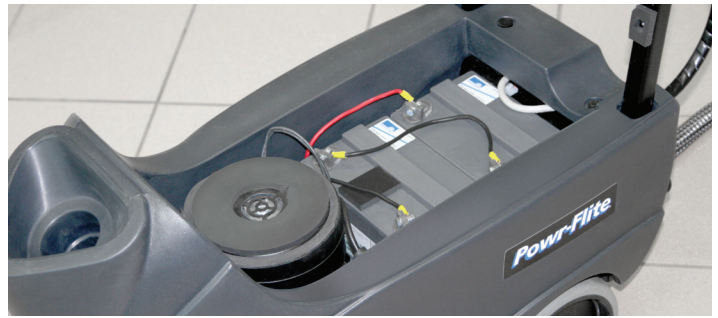

Fig 3
- Connect the battery connectors (Fig 3 & 4).